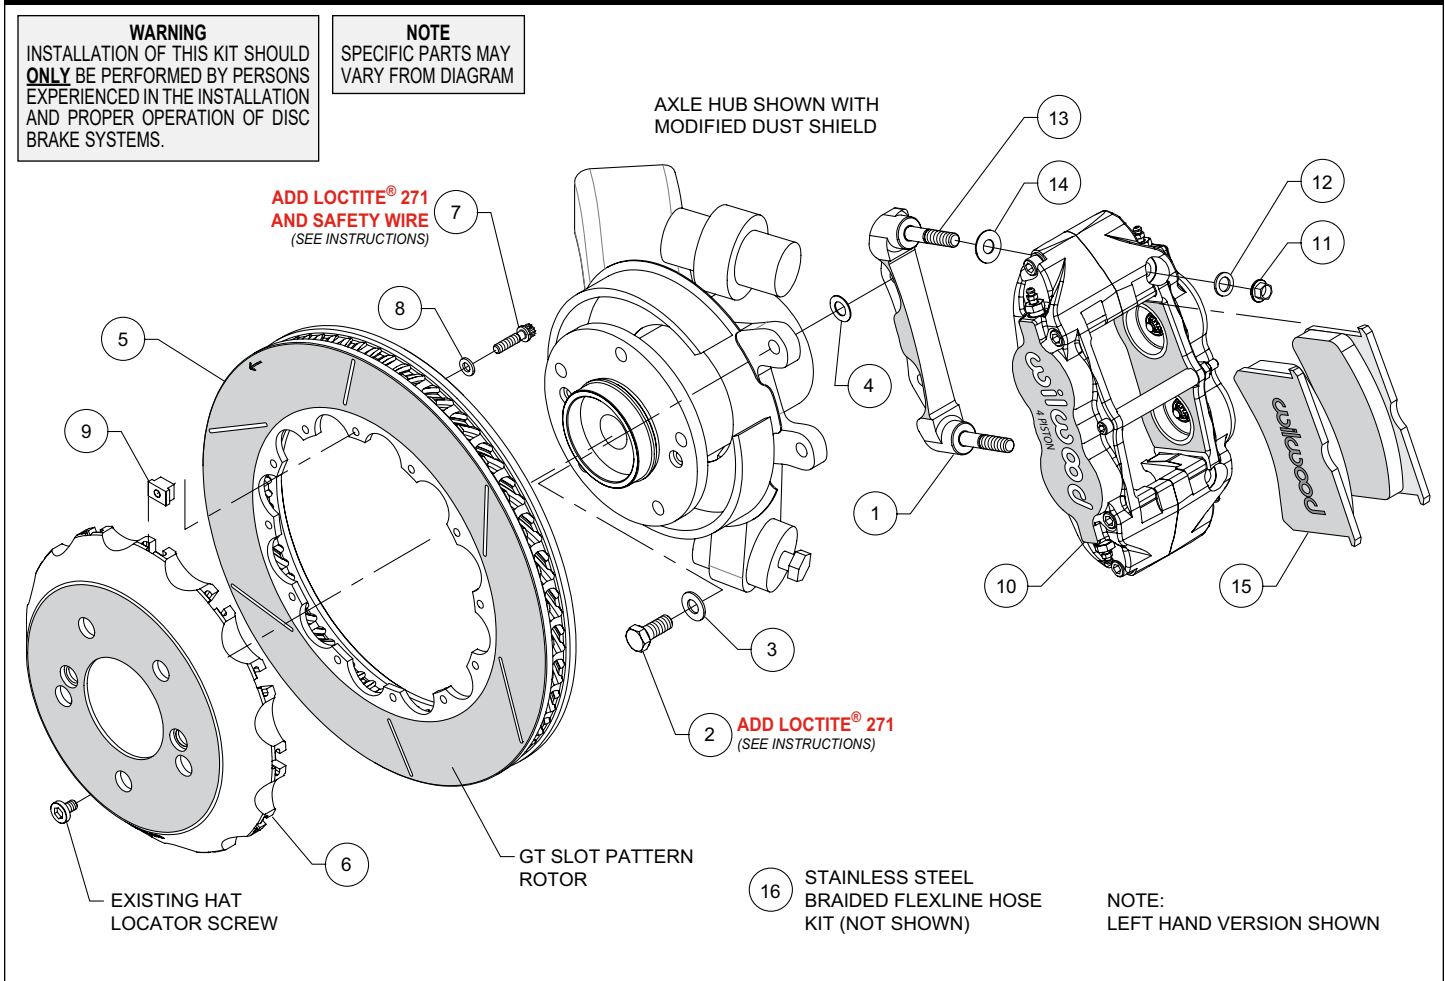
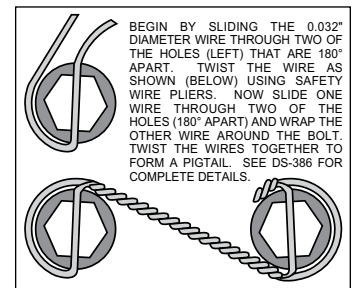

Figure 1. Typical Installation Configuration
Figure 3. Safety Wire Diagram
Assembly Instructions (numbers in parenthesis refer to the parts list and Figure 1 on the preceding pages):
- The caliper mount bracket (1) should initially be installed with clean, dry threads on the mounting bolts. Orient the bracket as shown in Figure 1 and Photo 3, and install using bolts (2) and washers (3). Initially place one .030 thick shim (4) on each bolt between the bracket and upright, Figure 1. Temporarily tighten the mounting bolts. **NOTE:** *The bracket must fit squarely against the mounting points on the upright.* Inspect for interference from casting irregularities, machining ridges, burrs, etc. Later, after the caliper alignment has been checked, the mount bolts will be secured using red *Loctite*® 271.
- Orient the rotor (5) and the hat (6) as shown in Figure 1 and Photo 4. Attach rotor to hat using bolts (7), washers (8), and t-nuts (9). Follow additional instructions included with the bolt kit. Apply red *Loctite*® 271 to the bolt threads and torque to 120 **in-lb** using a criss-cross pattern. Safety wire bolts using standard 0.032 inch diameter stainless steel safety wire as shown in Figure 3. Please refer to Wilwood's data sheet DS-386 (available at www.wilwood.com/Pdf/DataSheets/ds386.pdf) for complete safety wire installation instructions.
- Initially place one .035" thick shim (14) on each stud (13) as shown in Figure 1 and Photo 6. Mount the caliper (10) onto the bracket (1) using lock nuts (11) and washers (12), Figure 1. Temporarily tighten the lock nuts and view the rotor through the top opening of the caliper. The rotor should be centered in the caliper, Photo 7. If not, adjust by adding or subtracting shims (4) between the bracket and the mounting bosses. Always use the same amount of shims on each of the two mounting bolts. Once the caliper alignment is correct, remove the bracket mounting bolts (2) one at a time, apply red *Loctite*® 271 to the threads, and torque to 35 ft-lb.